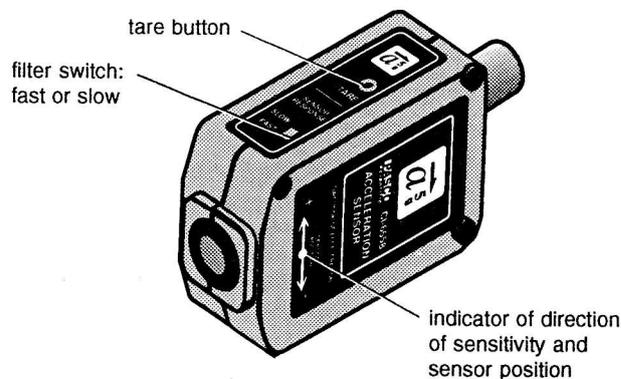

Figure 2. Sensor setup controls and arrow indicator of the direction of sensitivity.
- 1** Set the filter switch to slow for most applications. Set it to high for collision experiments or similar mechanical experiments (Figure 2).
- 2** Press the tare button to set the sensor to 0 under the current conditions (Figure 2).
The sensing unit of the Acceleration Sensor is oriented so that the line of greatest sensitivity follows the arrow indicating the direction of acceleration (Figure 2). Experiments should be conducted with the arrow on the label of the Acceleration Sensor oriented along the same line as the direction of the acceleration to be measured.